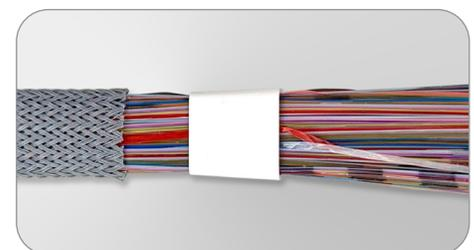

Figure 16
4. Flex mesh end and slide mesh tube #2 (**Figure 15**) a few inches over the Retention Insert #1 (**Figure 15**) with the narrow, tapered end pointed toward the mesh cut end (**Figure 16**). **NOTE:** Hard matrix ribbon will be inserted on edge entering the splice tray as shown.